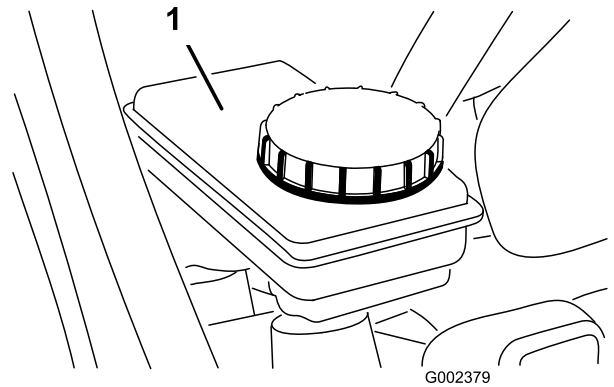

Figure 58
5. Ensure that the fluid level is up to the Full line on the reservoir (Figure 58).
6. If the fluid level is low, clean the area around the cap, remove the reservoir cap, and fill the reservoir to the proper level with the specified brake fluid (Figure 58).